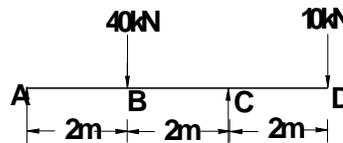

Fig. 6(b)
- 6 a. Derive an expression for relationship between bending stress and radius of curvature of a beam. (10)
b. A Cantilever of square section 200mm x 200mm, 2 meter long just fails in flexure when a load of 12kN is placed at its free end. A beam of same material and having a rectangular cross section 150mm wide and 300mm deep is simply supported over a span of 3m. Calculate the minimum central concentrated load required to break the beam. (10)
- 7 a. Derive an expression $E = \frac{d^2 y}{dx^2} = M$ with usual notations. (10)
b. Determine the deflection under the loads in the beam shown in fig.6 (b). Take flexural rigidity as EI through out. (10)